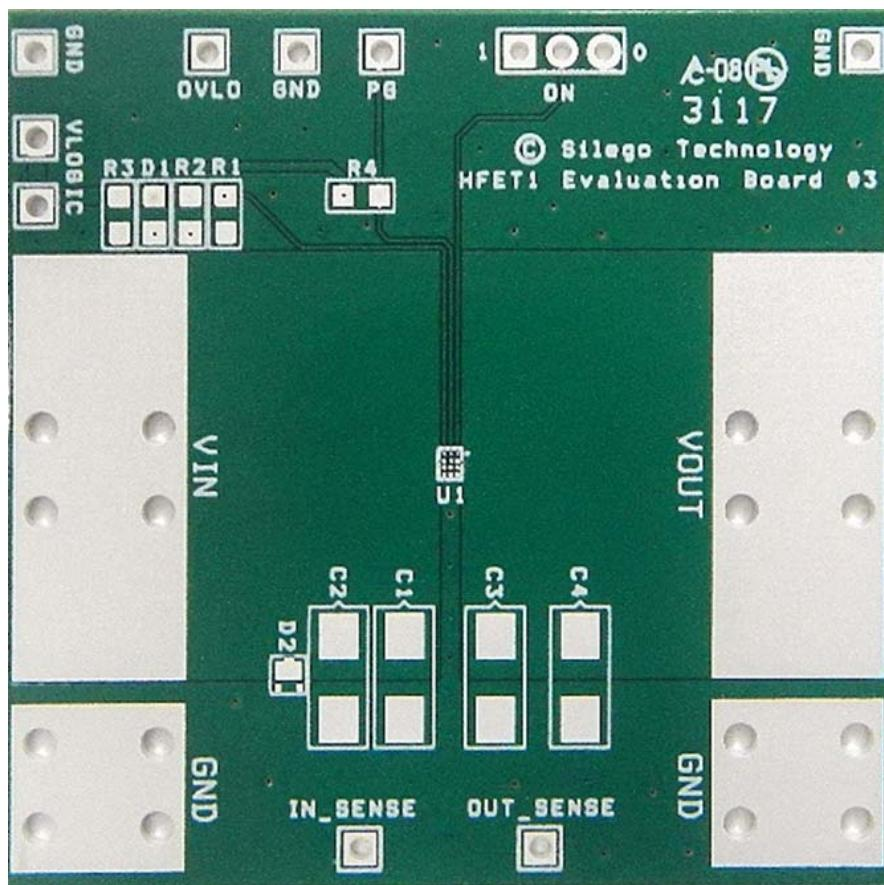

Figure 30. SLG59H1313C Evaluation Board
1. Since the IN and OUT pins dissipate most of the heat generated during high-load current operation, it is highly recommended to make power traces as short, direct, and wide as possible. A good practice is to make power traces with an absolute minimum widths of 15 mils (0.381 mm) per Ampere. A representative layout, shown in Figure 30, illustrates proper techniques for heat to transfer as efficiently as possible out of the device;
A High Voltage GreenFET Evaluation Board for SLG59H1313C is designed according to the statements above and is illustrated on Figure 30. Please note that evaluation board has IN_Sense and OUT_Sense pads. They cannot carry high currents and dedicated only for RDSON evaluation.